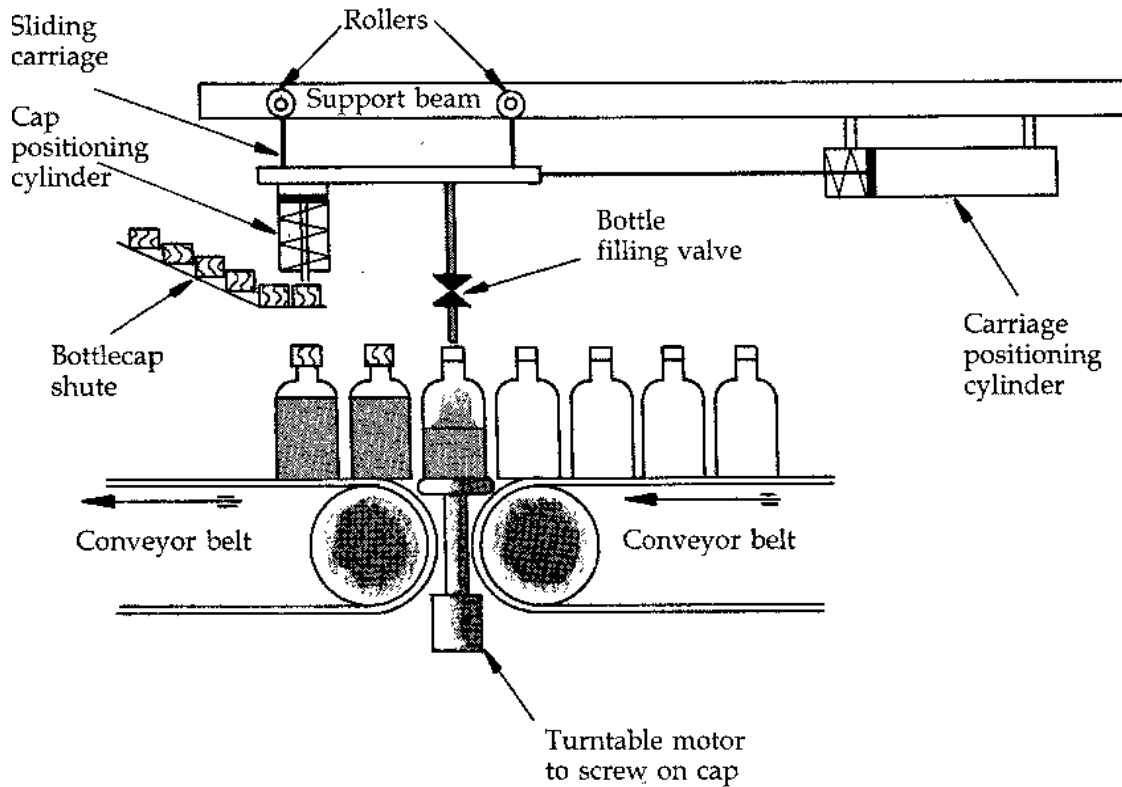

Figure Q12A
2. Figure Q12A illustrates a bottling plant in a lemonade factory. Note that the cap positioning cylinder is shown retracted and the carriage positioning cylinder is shown extended.